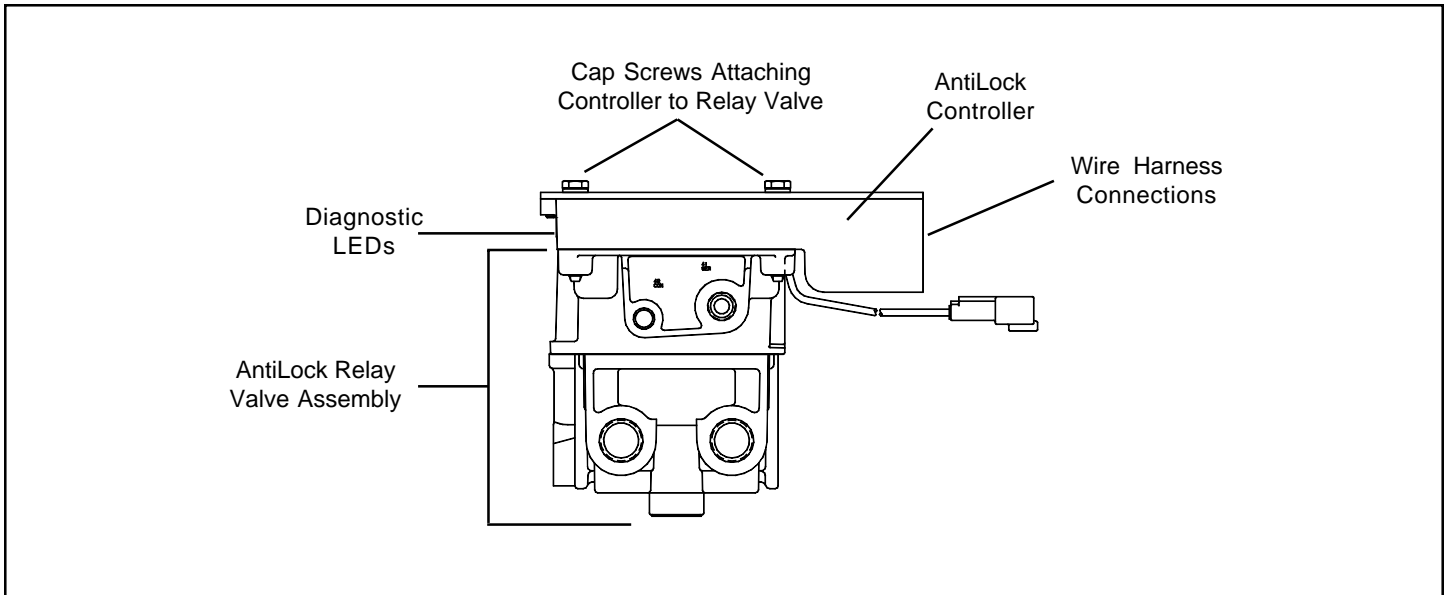

Figure 1: Typical Controller Relay Assembly
The AntiLock controller is generally valve mounted, as illustrated in figure 1.
1. Position the wire harness bracket on the AntiLock controller as illustrated in figure 1. Using the two new cap screws provided secure the bracket on the controller. Torque the cap screws to 50-80 inch pounds.
2. BEFORE RECONNECTING the WIRE HARNESS(ES) to the controller assembly, it is necessary to apply a dielectric grease to the PINS on the controller. The purpose of the dielectric grease is to inhibit corrosion between the metal surfaces of the pin and its socket. Apply the grease, supplied in this kit, so that each **pin** of the connector is coated when the connector halves are assembled.